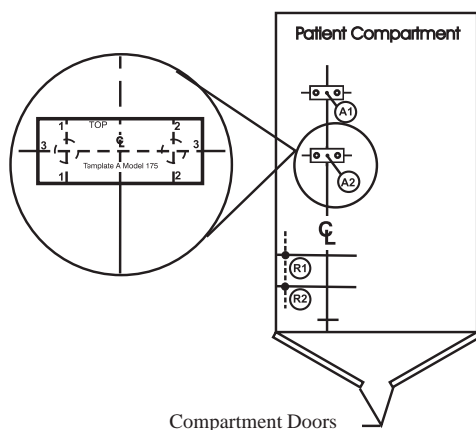

Figure 15 - Placing Template A at Antler Point A2
6. Repeat Steps 3-5 using Antler Point A2 (Figure 15, page 19).